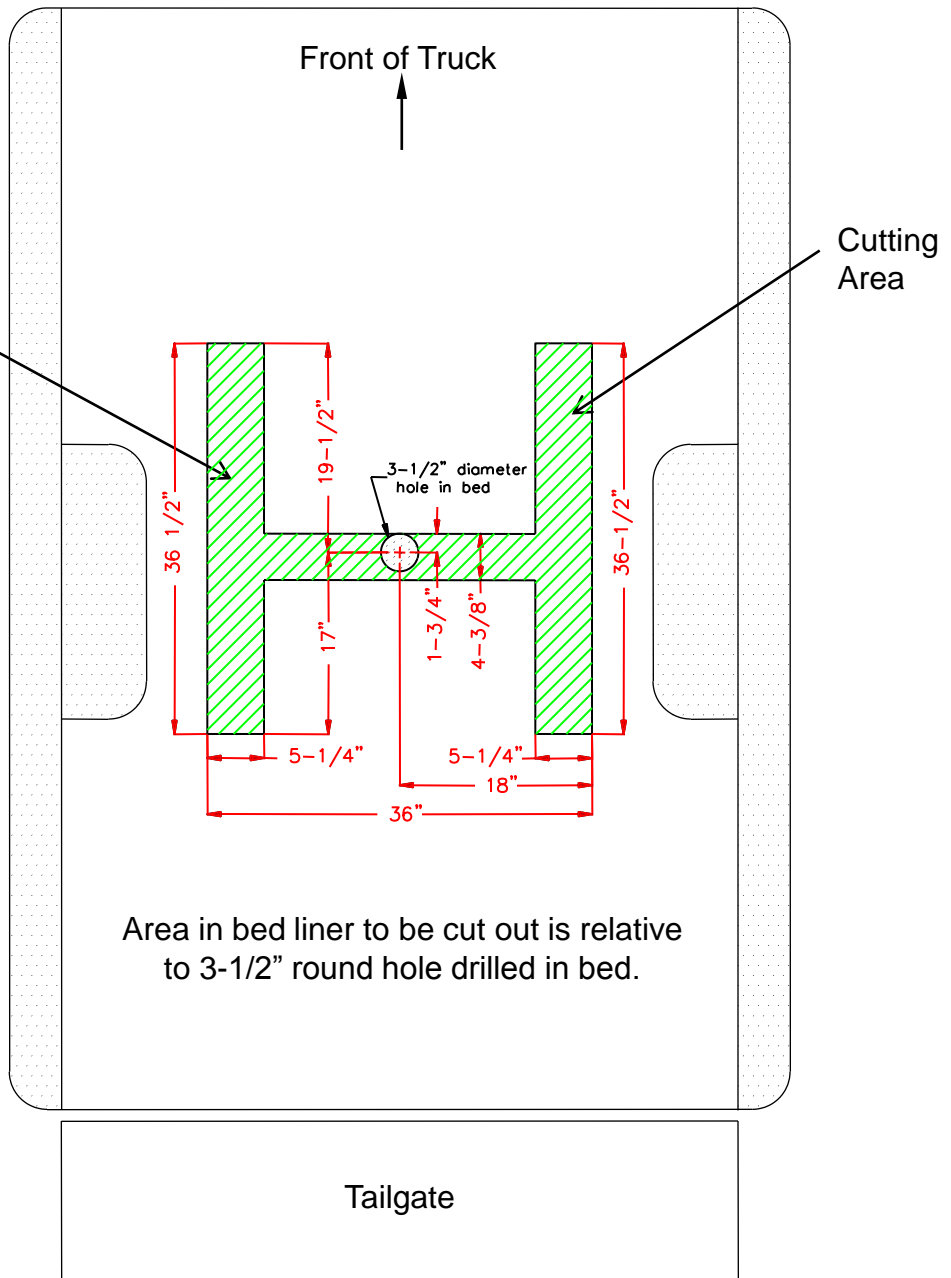

Figure 8
3. Measure and mark the distances provided in **Figure 8** for the areas to be cut out of your plastic bed liner. This is just one option, check with vehicle owner to discuss other ways to cut liner or remove liner and leave out.